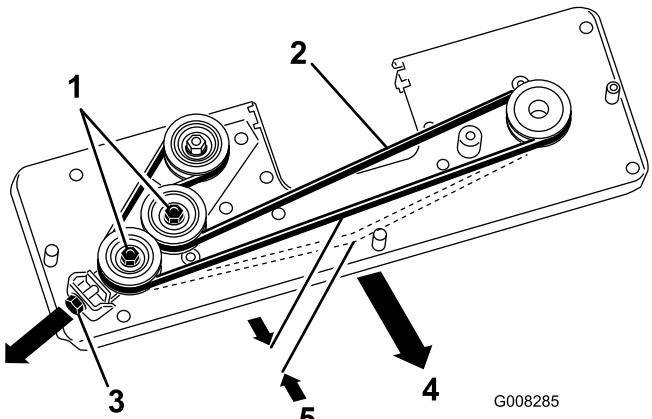

Figure 33
4. Loosen the 2 hex nuts on the idler pulley (Figure 33).
5. Adjust the M10 nut until the belt flexes 5 mm with 30 N of force (Figure 33).